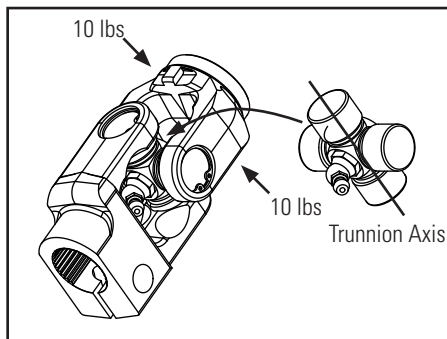

Figure 3 - Application of Load
4. Apply a sufficient load by hand (approximately ± 10 lbs) to the weld yoke along the trunnion axis. **See Figure 3.**